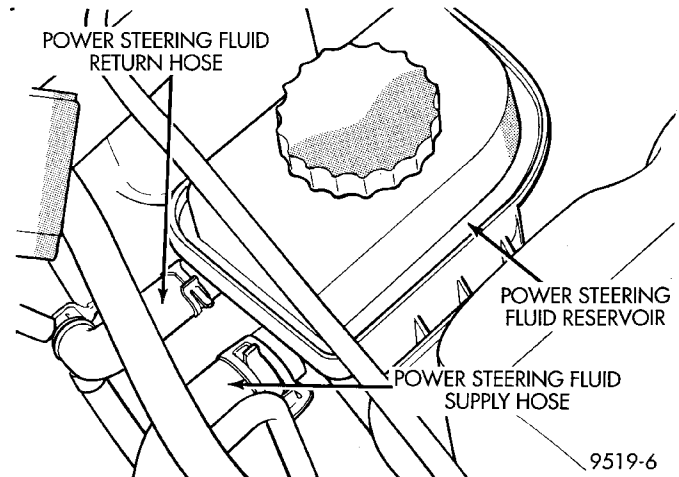

Fig. 18 Power Steering Return Hose At Reservoir
(2) Install power steering return hose on power steering fluid reservoir fitting. Install hose clamp on power steering return hose at power steering fluid reservoir (Fig. 18). **Be sure hose clamp is**